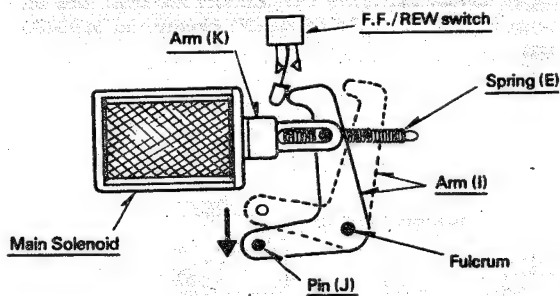

Fig. 12
1. With activation of the sensing mechanism, the main solenoid switch is turned on, so that Arm (I) is rotated counterclockwise and pushes Pin (J), which is attached to the head base. Simultaneously, Arm (I) depresses the FF/REW Switch which is designed to vary the motor speed. When Arm (I) is disengaged, the motor speed is set for fast forward and rewind operations, and when depressed, the speed is set for tape play. Arm (K), attached to the Main Solenoid, is provided with an oval hole for purpose of rotating, and is returned to its normal position by Spring (E) (Fig. 12).